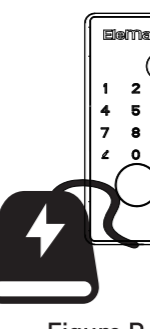

Figure P-6
(7) Temporary power to outside escutcheon(Figure P-6)
B.For manual locking when the automatic lock function has not been installed, simply touch the lock button "Ⓛ" on the keypad. (Figure P-6)